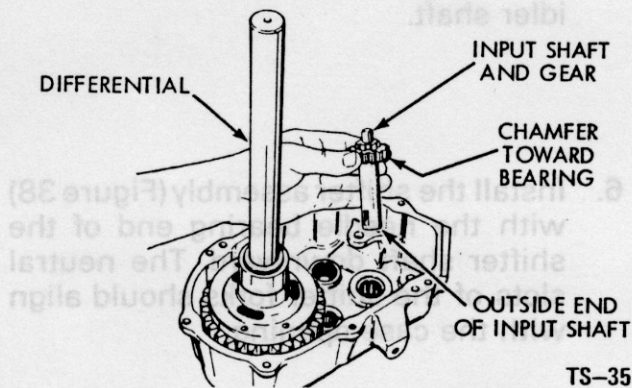

Figure 35 - Input Shaft and Gear
2. Install input shaft and 16-T spur gear (Figure 35) into the case.
3. Install the differential assembly (Figure 35) with the differential bolt heads down and the short axle shaft through the case.